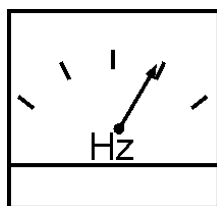

Figure 47. Frequency Meter (Hz)
12. Depending on the position of the frequency selector switch (Figure 42), the generator's frequency meter (Figure 47) should be displaying either a 50 or 60 cycle output frequency expressed in **HERTZ**.